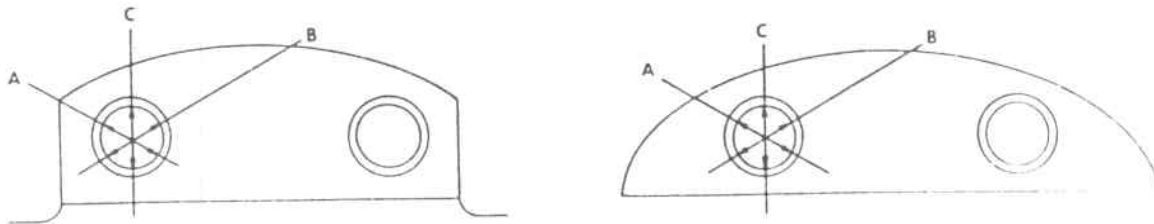

FIGURE 72-40-03. COUNTERWEIGHT BUSHING DIAMETER CHECK.
B. Inspect in the following manner: Measure the inside diameter of bushing across points A, B and C. Take the average of A and B and deduct this from C. If the difference exceeds .001" then the bushing should be replaced. (Refer to Figure 72-40-03).